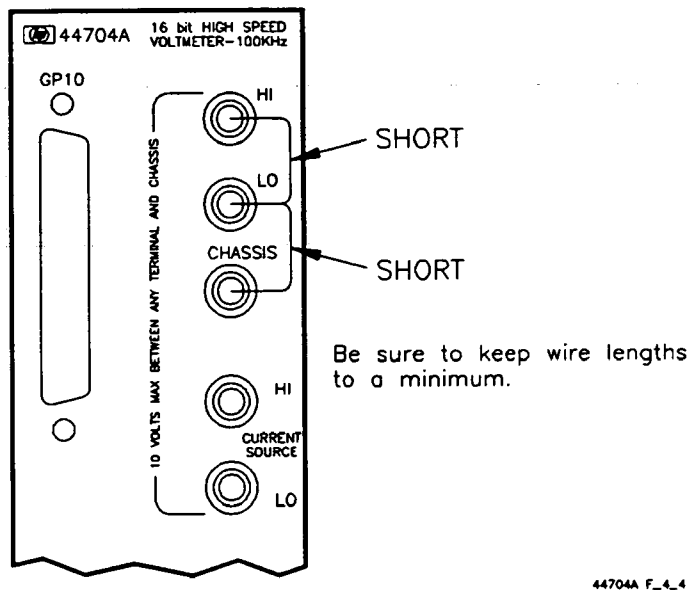

Figure 4-4. DC Voltage Offset Test Setup
1. Connect a low thermal short (copper wire) across the front panel HI and LO input terminals and across the LO and CHASSIS terminals as shown in Figure 4-4.